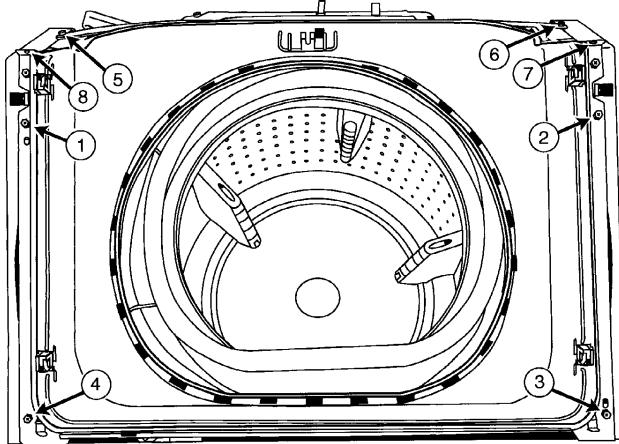

Figure 5-10
4. Removal and replacement of the screws in the following order, as illustrated, is necessary to provide proper alignment of the parts. Failure to do so will hinder removal and replacement of the shroud onto the cabinet (*Figure 5-10*).